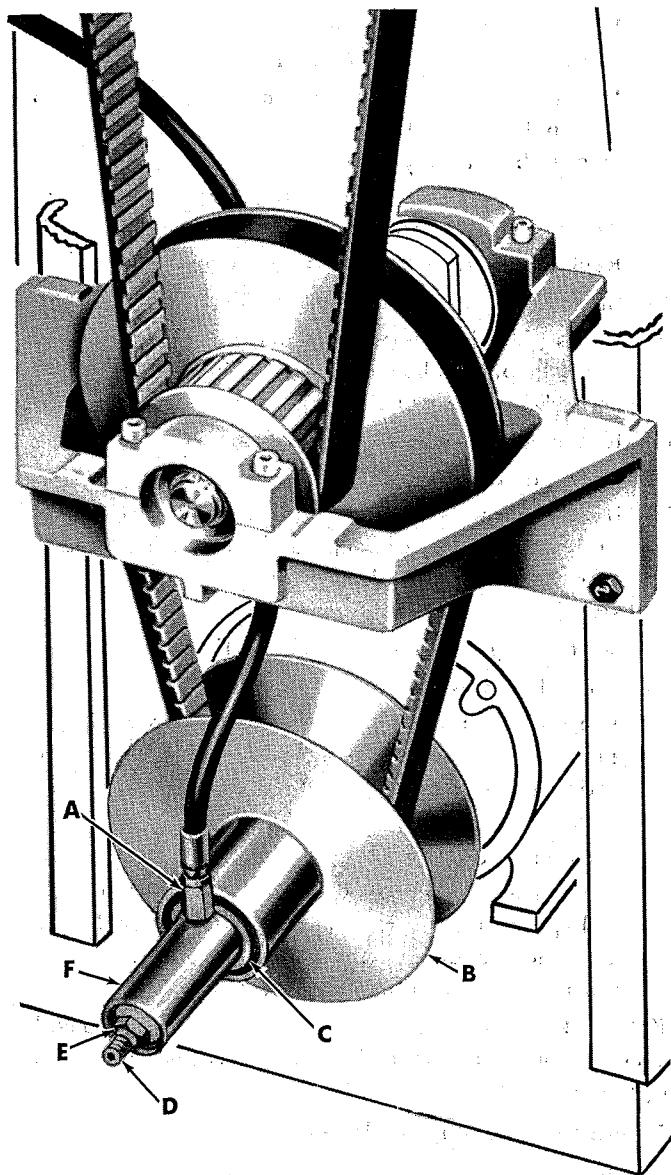

Figure 24
1. Hold nut (E, fig. 24) with wrench, and turn shaft (D) with a socket set screw wrench -- clockwise if speed is too low, counter-clockwise if speed is too high.
- Measure distance from end of shaft (D, fig. 24) to nut (E). NOTE: *Record this dimension.*
- Disconnect fitting (A) and drain oil from unit.
- While holding shaft (D) with a socket set screw wrench, remove nut (E) and washer.
- Pull hydraulic cylinder (F) and outer half of variable pulley (B) off the shaft (D) and remove stop washer from pulley (B).
- Press hydraulic cylinder (F) with bearing (C) from variable pulley (B).
- Replace the two "O" rings on shaft (D).
- Install stop washer in pulley (B).
- Press new hydraulic cylinder with bearing into variable pulley hub (B), then slide the assembly onto shaft (D) and pulley hub.
- Install sleeve and washer on shaft (D).
- Start nut (E) on shaft (D).